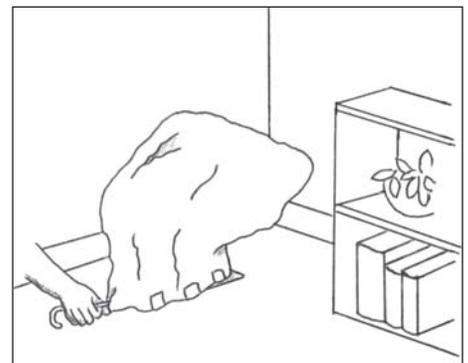

Figure 2 Let the bag inflate over a register
3. Place it over the register or exhaust hood (see Figure 2).